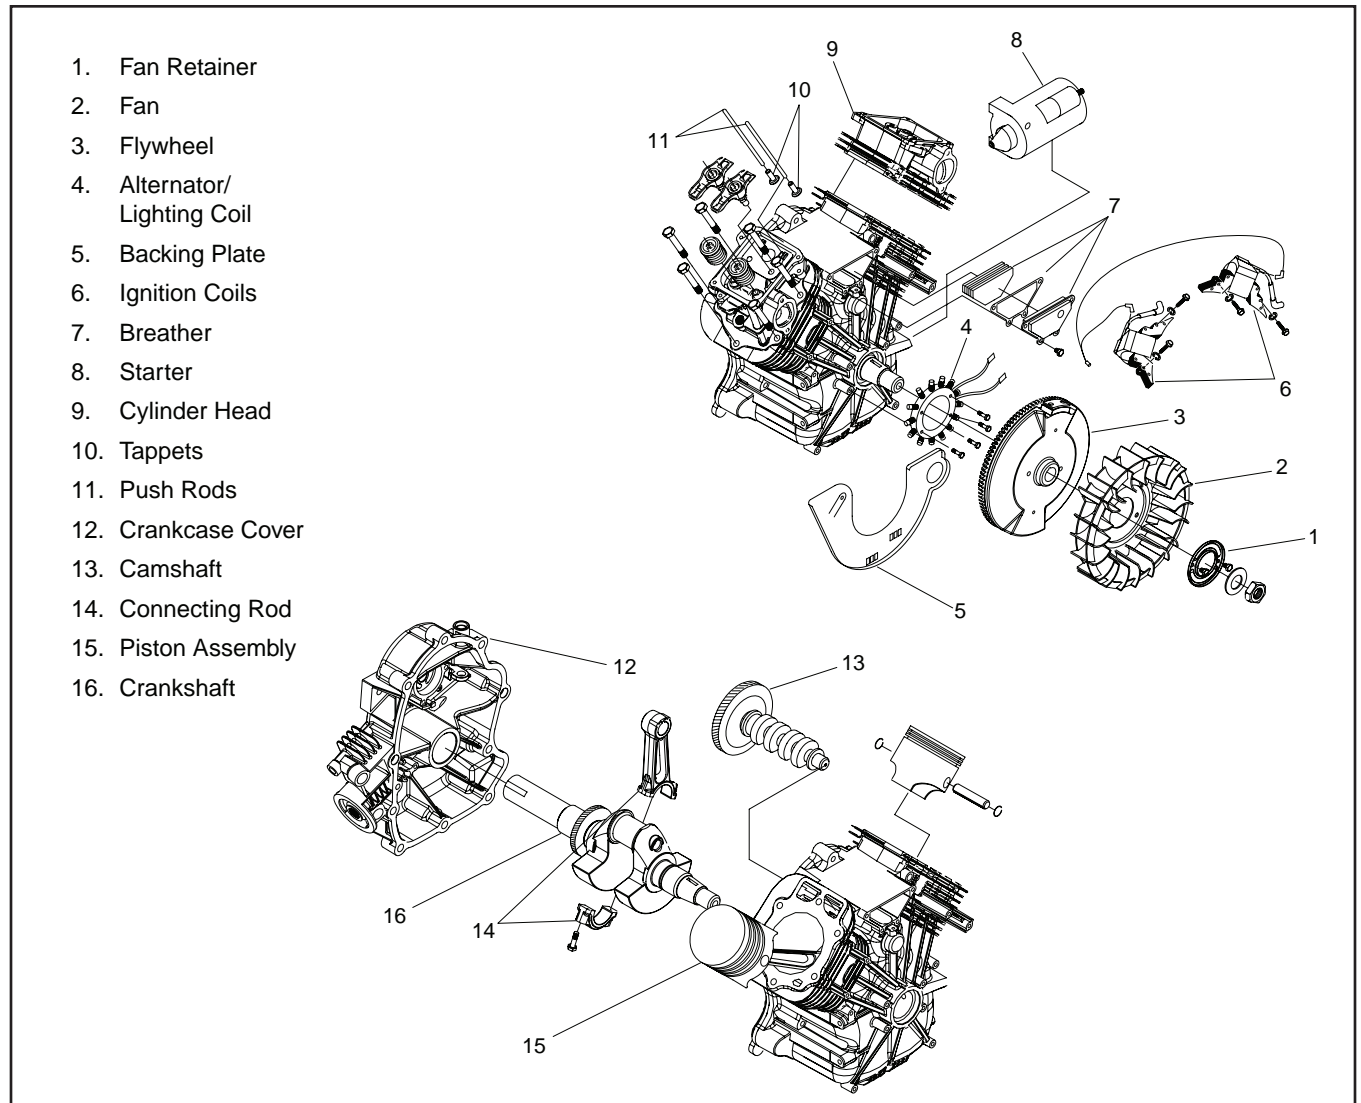

Figure 9-1. Partial View of Engine Breakdown
1. Remove the following parts (Figure 9-1):